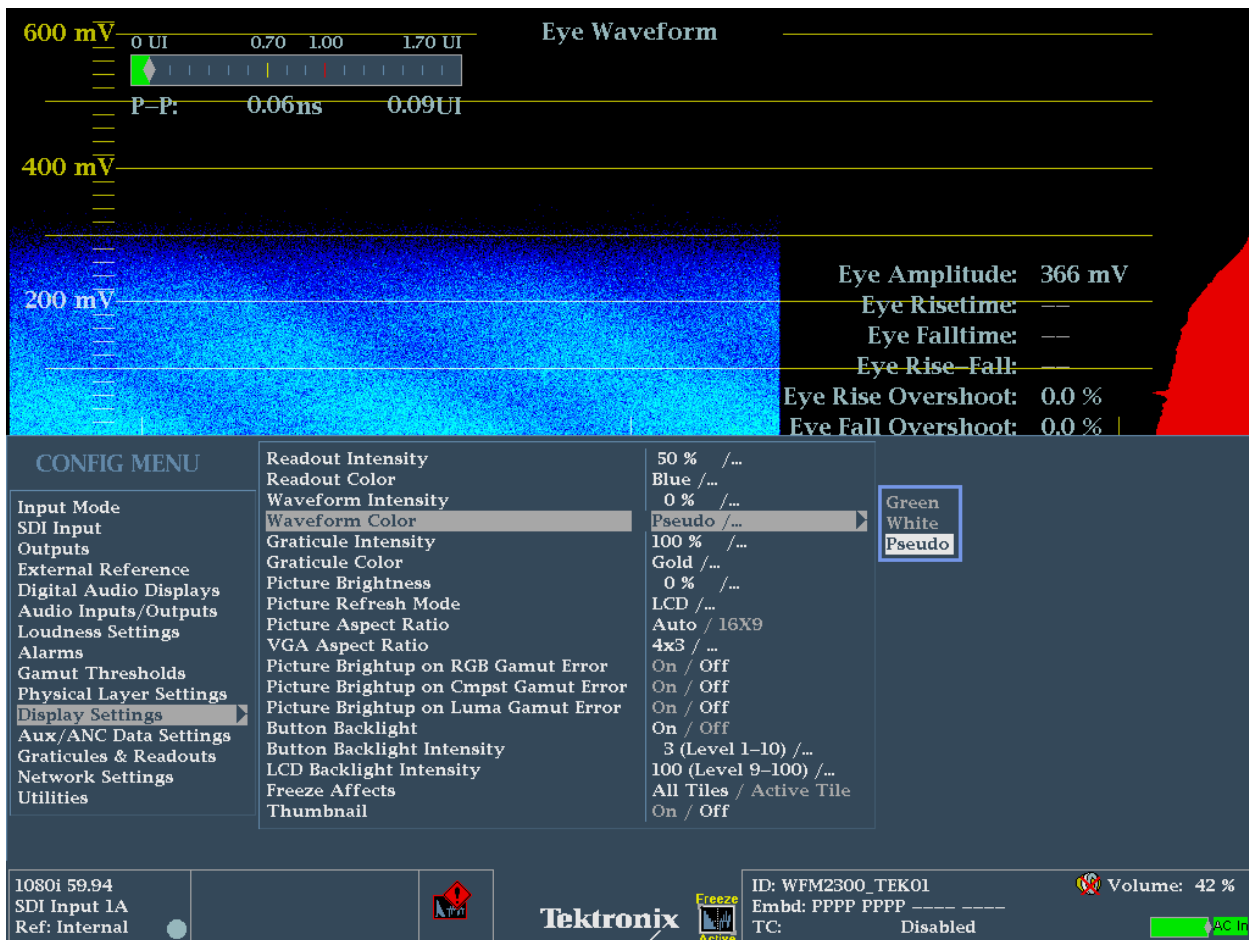

Figure 9. Display Setting menu.
Normally the green or white trace color is used for the waveform displays but it can be useful to enable the pseudo color display as shown in Figure 9 to highlight the intensity difference of those parts of the trace that occur more frequently. A blue color is used for less frequently occurring parts of the trace with cyan, green, yellow and the red showing increasing frequency of that part of the trace.
2. Using the arrow key or general knob navigate to **Display Settings** as shown in Figure 9